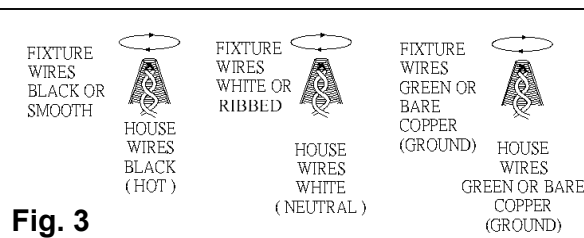

Fig. 3
CONNECTING THE WIRE (See fig.3)
15. Connect the electrical wires as shown in Fig. 3, making sure that all wire connectors (M) are secured. If your outlet box has a ground wire (green or bare copper), connect the fixture's ground wire to it. Otherwise, connect the fixture's ground wire directly to the crossbar (P) using the ground green screw (N) provided.
16. Tuck wire connectors (M) neatly into the outlet box and raise canopy (U) over collar loop (T) and secure with collar ring (Y).
17. Install (5) five candelabra base bulbs (J) up to 60 watts each or CFL or LED equivalent (not included) in accordance with the fixture specification. — **DO NOT EXCEED THE MAXIMUM WATTAGE RATING! (NE PAS DEPASSER LA PUISSANCE NOMINALE MAXIMALE!**
18. Insert glass shades (K) into cups (H).